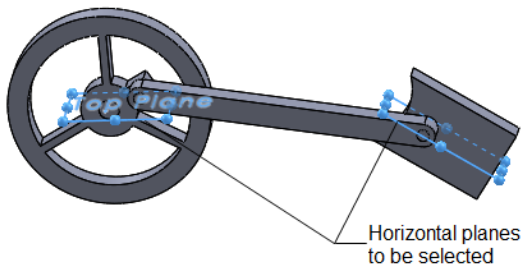
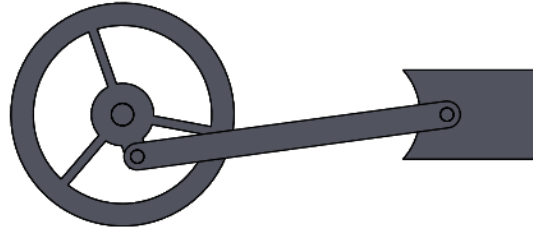

Figure 2-47 The planes to be selected
Figure 2-48 The final mechanism
6. Next, apply the **Coincident** mate between the horizontal planes of the Shaft and the Slider, refer to Figure 2-47. Next, exit from the **Mate PropertyManager**. Figure 2-48 shows the final assembly of the mechanism.